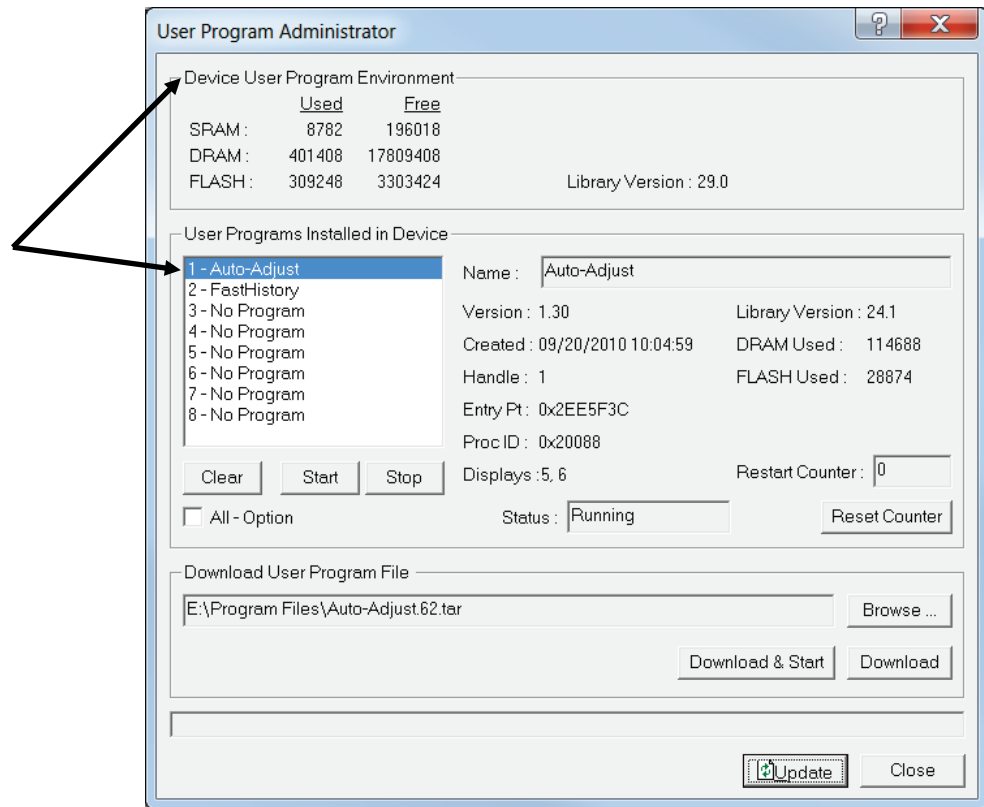

Figure 13. User Program Administrator
10. Click **OK**. The User Program Administrator screen displays (see Figure 13). Note that: